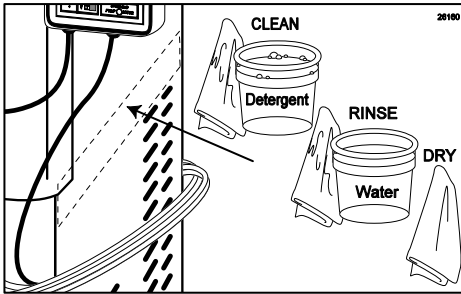

Figure 139
3. Thoroughly clean, rinse and dry the area where the Casing will be mounted using detergent water, clean water, and single service towels. (See Figure 139.)